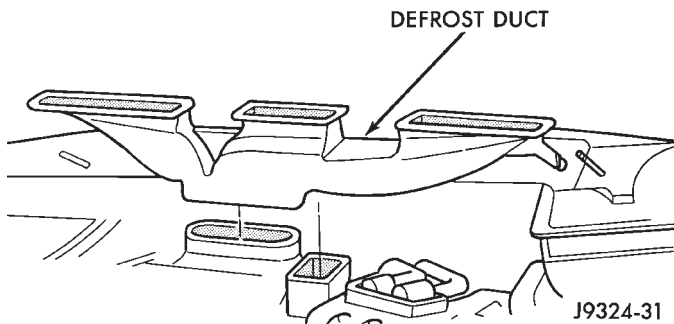

Fig. 27 Defrost Duct
- (1) Remove the instrument panel (refer to Group 23, Body).
- (2) Remove the defrost duct (Fig. 27).